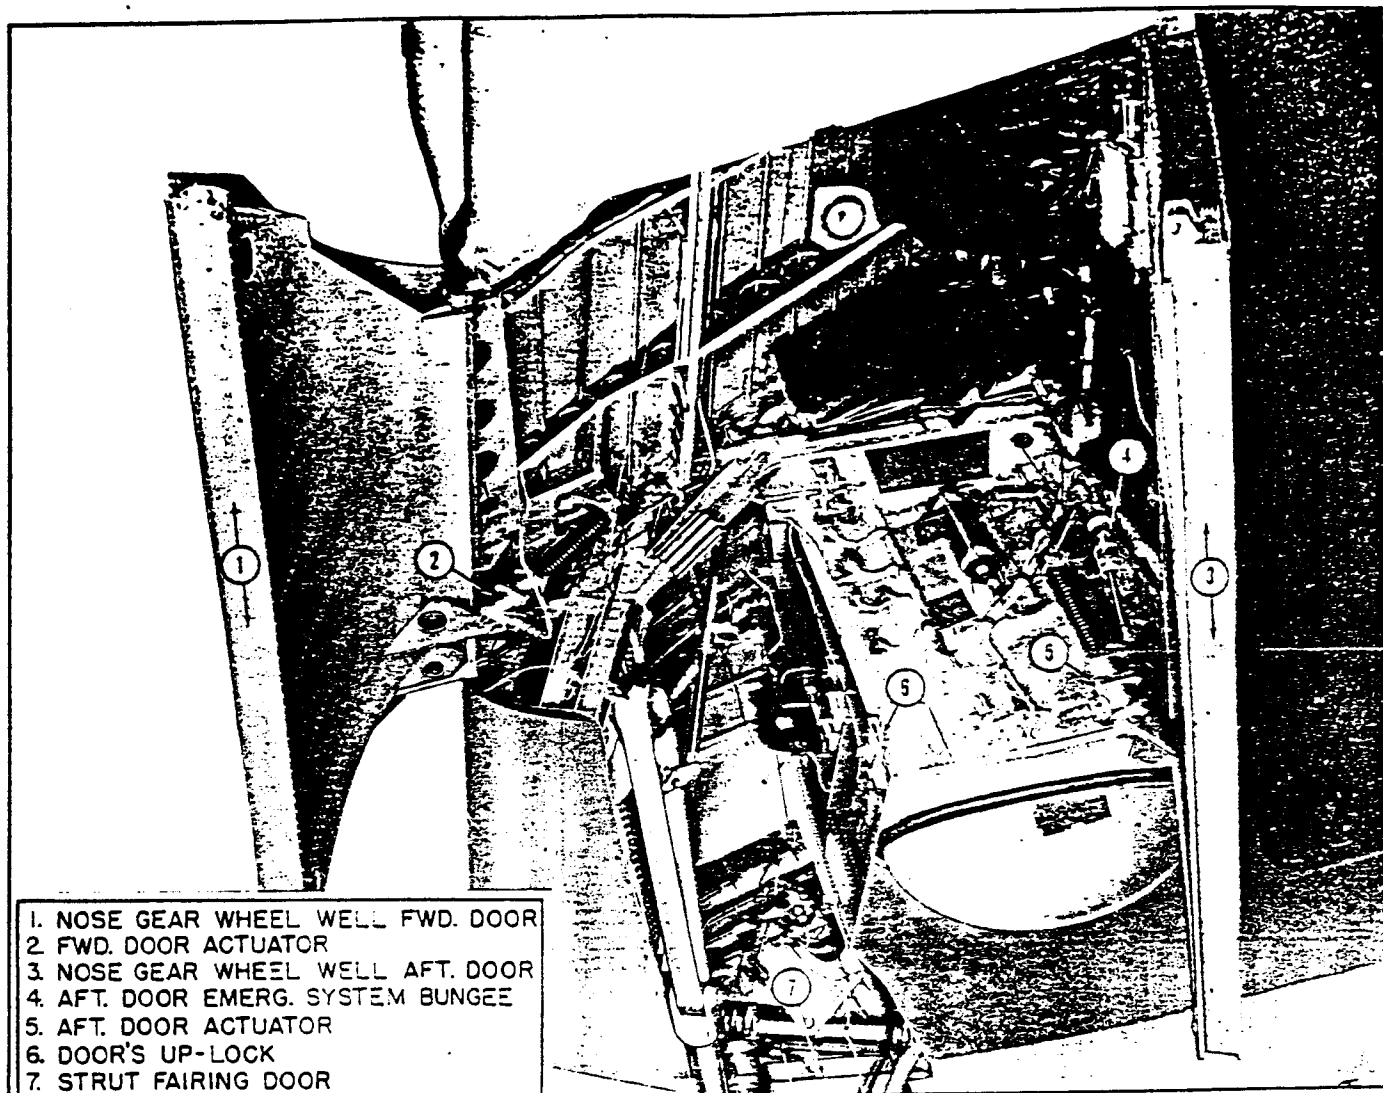

Figure 23. Nose Gear Doors and Operating Mechanism
(7) NOSE GEAR UP AND DOWN-LOCK CONTROL MECHANISM. (See figure 23.)
c. Apply 400 psi and 1400 psi to air filler valve and leave for five (5) minutes each.
(9) NOSE GEAR DOORS AND OPERATING MECHANISM. (See figure 23.)
(c) NOSE-GEAR DOOR LOCKS. (See figure 23.)